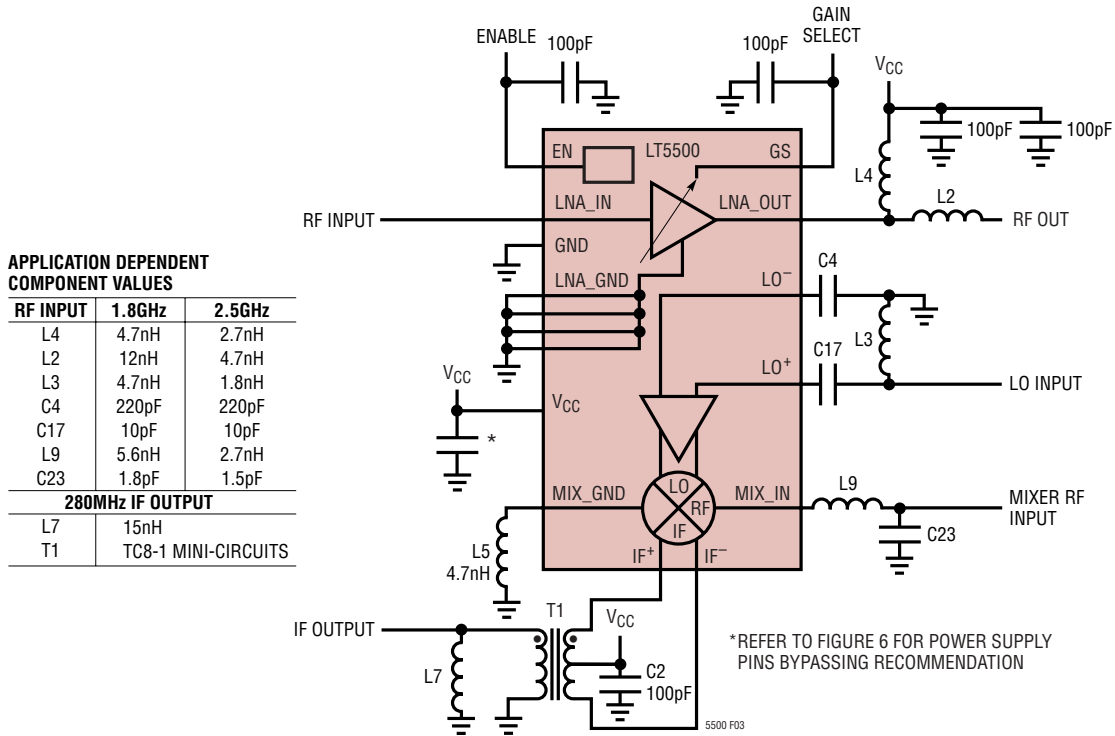
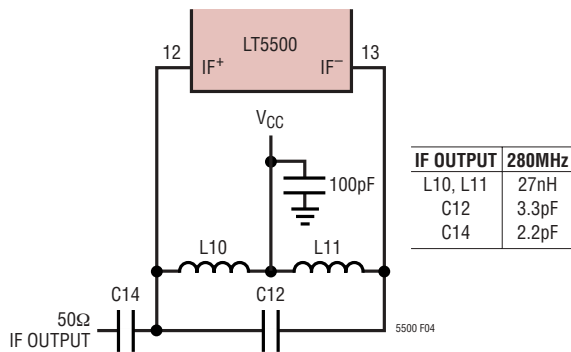
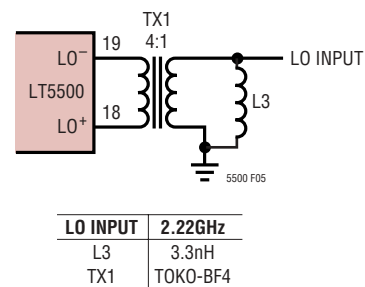

Figure 3. Simplified Test Schematic for 1.8GHz and 2.5GHz Applications
Figure 4. Alternative Mixer IF Output Matching
Figure 5. Optional Transformer-Based Differential LO Drive
(Test circuit shown in Figure 3 for 2.5GHz application) $V_{CC} = 3V$ DC, LNA: $f_{LNA_IN} = 2.5GHz$, Mixer: $f_{MIX_IN} = 2.5GHz$, $f_{LO} = 2.22GHz$, $P_{LO} = -10dBm$, $T_A = 25^{\circ}C$, unless otherwise noted.
Note 3: Component values listed in Figure 3 for 1.8GHz evaluation board were used to guarantee 1.8GHz performance.
requires a shunt inductor connected to the power supply to provide the bias current. The component configuration for matching and example component values are listed in Figure 3. If it is desirable to reduce the gain further and simultaneously broaden the LNA bandwidth, an additional shunt resistor to the power supply can be added to the output to reduce the output quality factor (Q).
The Mixer consists of a single-ended input differential pair followed by a double-balanced mixer cell. The input matching configuration for the Mixer is shown in Figure 3. The Mixer uses a 4.7nH external inductance to act as a high frequency current source at the MIX_GND pin. Example component values for matching the mixer input are tabulated in Figure 3.
An IF transformer can be used to create a single-ended output. The additional discrete components necessary to achieve a 50Ω match are tabulated in Figure 3. Alternatively, the discrete solution shown in Figure 4 can be used to perform differential to single-ended conversion. For best LO and RF signal suppression at the IF output, a transformer should be used. If it is desirable to reduce the gain of the mixer, a resistor between the IF outputs can be used.
The LO inputs can be driven either differentially or single ended. A single-ended configuration is shown along with example component values in Figure 3. Optionally, the LO can be driven differentially as shown in Figure 5.
The evaluation board employs primarily 0402 surface mount components, particularly near the signal paths. All surface mount inductors must have a high self-resonance frequency. The component values necessary for 1.8GHz and 2.5GHz applications are tabulated in Figure 3.